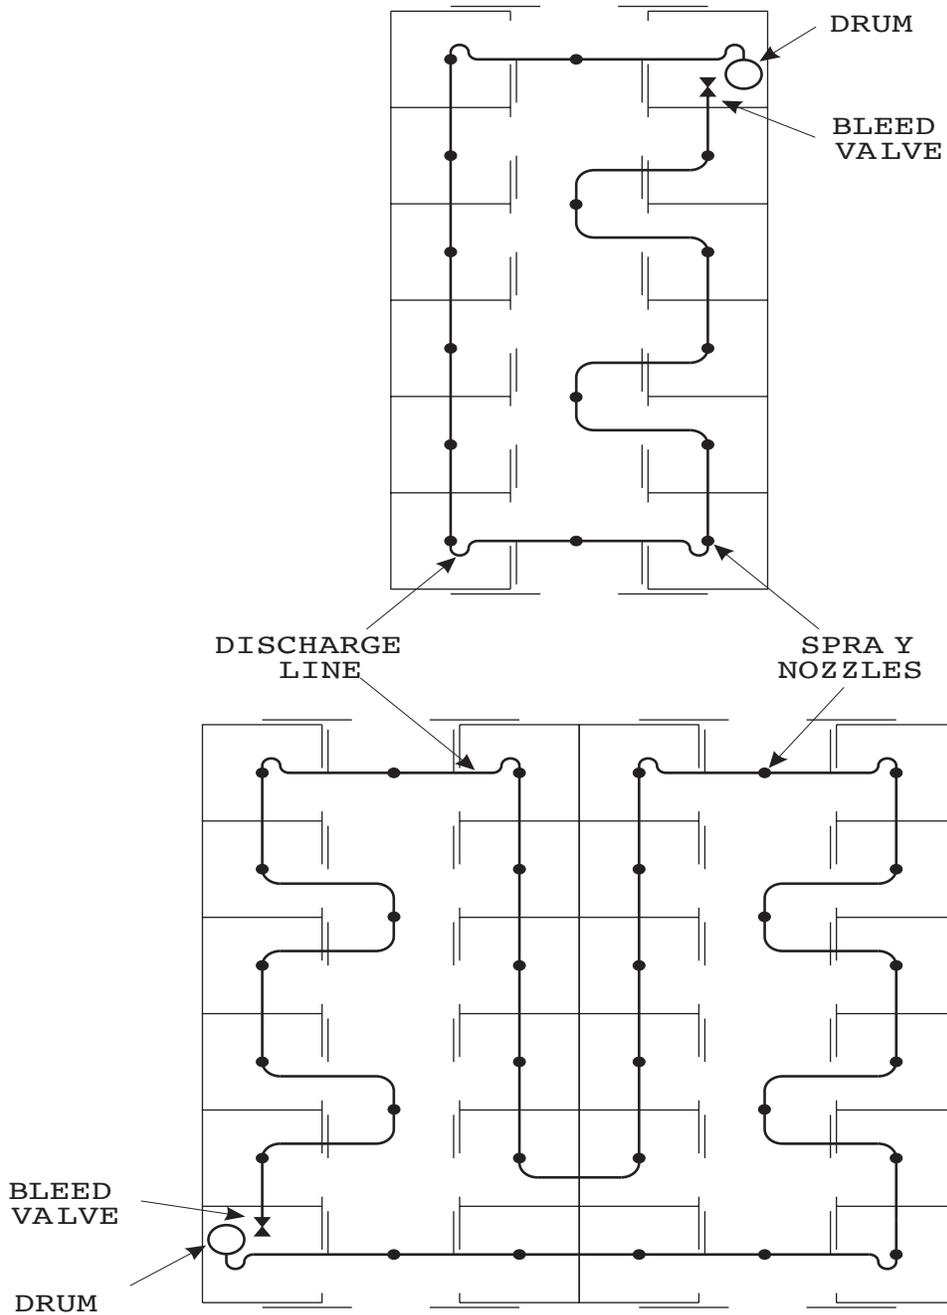

Figure 4 – Sample Barn Diagrams
13. Remove the spray nozzles from package. Using the barn diagrams as a guide (figure 4), run the ¼ inch nylon tubing on the ground around the stall area to be treated, beginning at the tank.